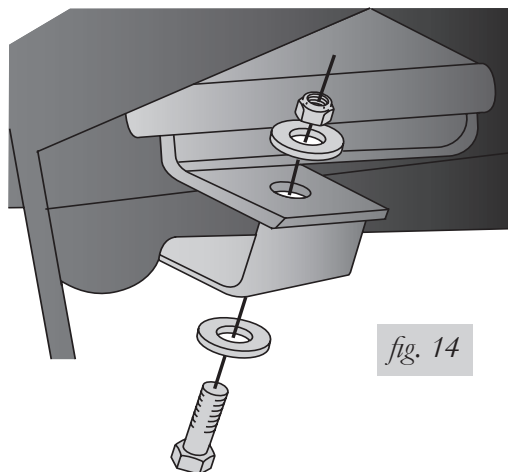

fig. 14
5. Secure the lower bracket to the jounce bumper strike pad using the retaining bracket (E), 3/8" x 2" hex head bolt (J), flat washers (M) and 3/8" lock nut (L) (Fig. 14).